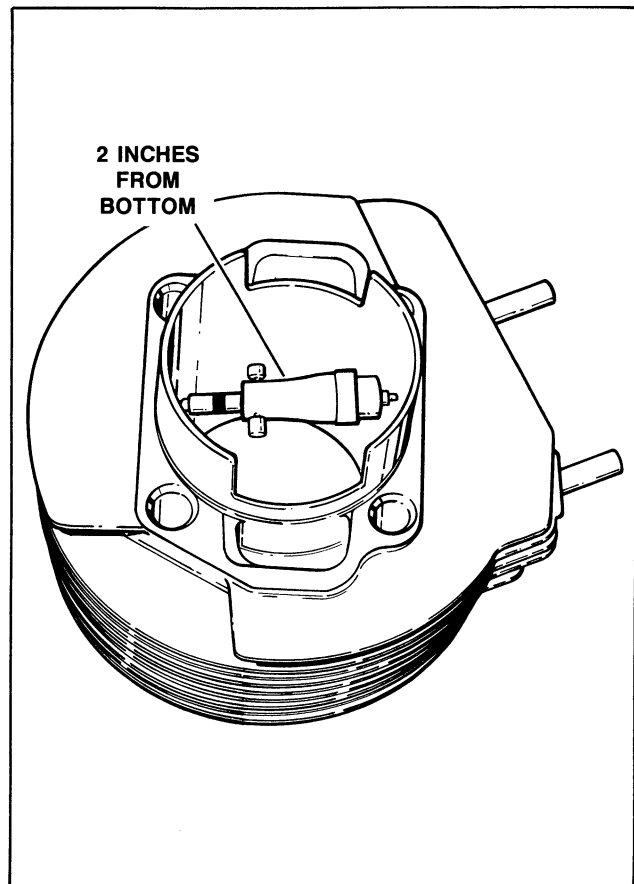

Figure 58 – Cylinder Bore Measurement
- c. See Figure 58. Take cylinder bore measurement 2 in. from bottom of bore, measuring from front to rear, then left to right. Record the measurements.